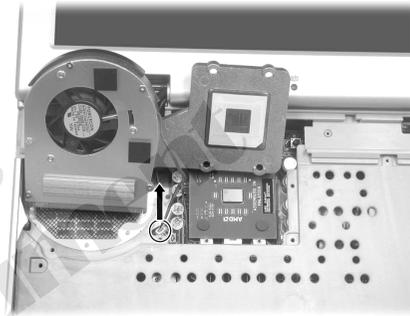

Figure 2-9 Remove the CPU
6. Disconnect the fan's power cord from the system board, then take the heatsink away. (Figure 2-9)